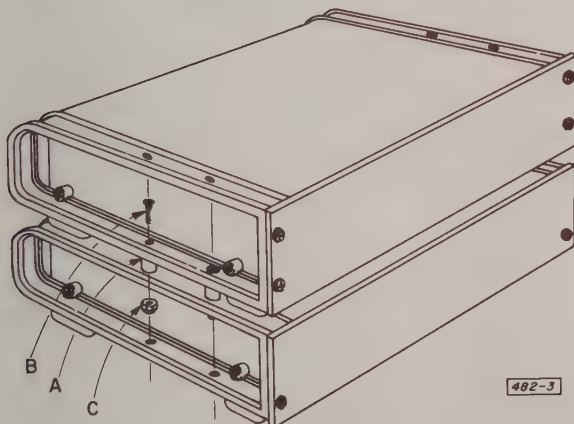

Figure 2-5. End frame stacking diagram.
b. Place the instrument on top of the base instrument with the feet of the end frame in the channel of the base end frames (Figure 2-5).
c. Place a 15/32-inch spacer (A) over each of the four holes on the top of the base end frames and line up the holes in the bottom of the end frames on the top instrument with the spacers.
d. Insert a No. 10, 1-inch screw (B) through each of the four holes in the bottom of the end frame on the top instrument and see that the screw comes through the top of the bottom end frame.